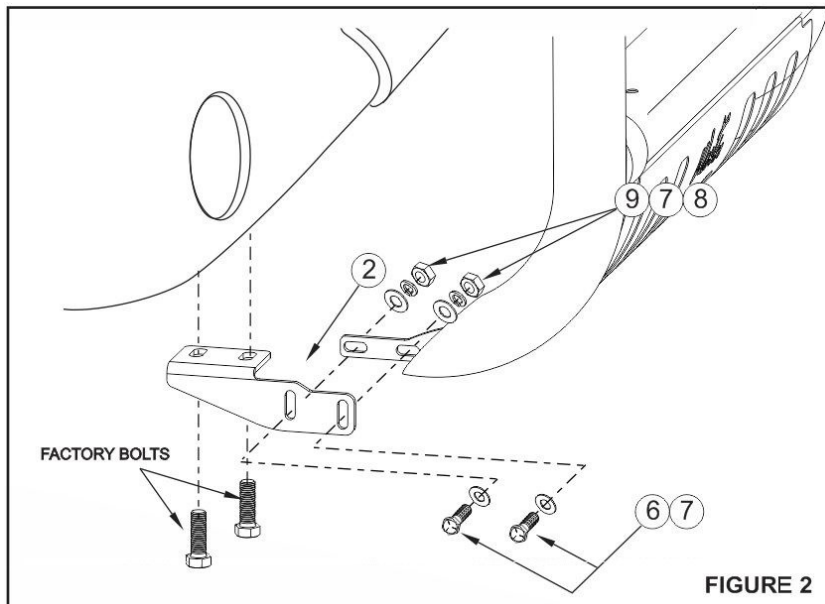

FIGURE 2
3. Install the brackets using the factory tow hook bolts. Leave loose. See **Figures 2 and 3**.